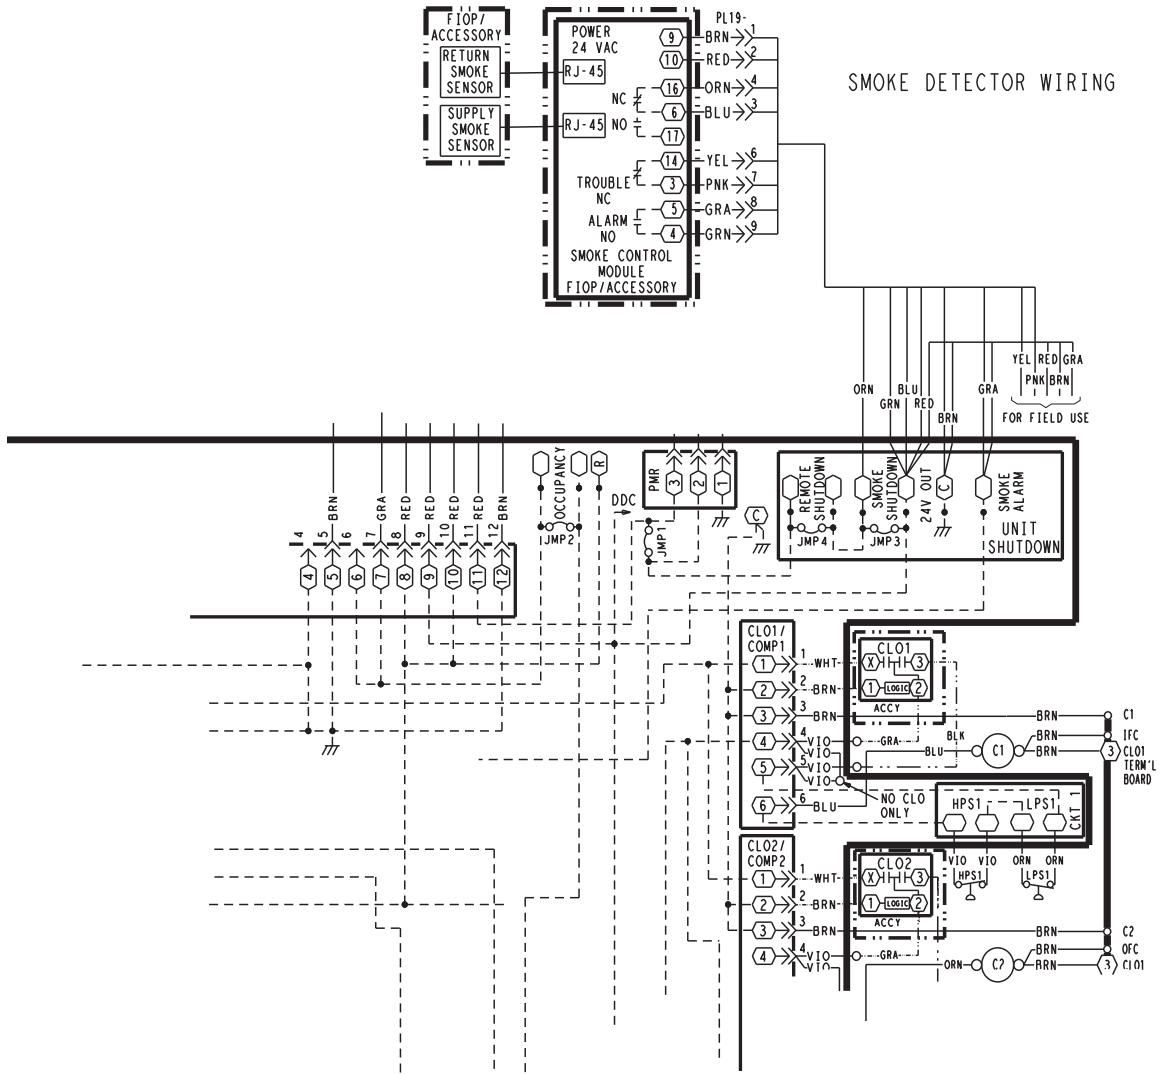

Fig. 4 - Smoke Detector Wiring
3. With harness from kit, plug the harness to controller as shown in wiring label. (See Fig. 4.)